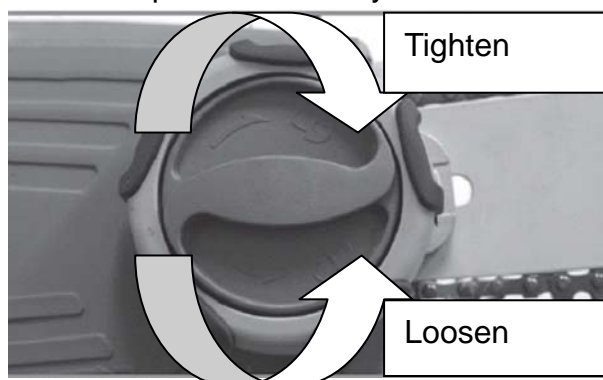

Fig.4
- 2) Remove sprocket cover by loose the hand wheel on sprocket cover. Fig. 4